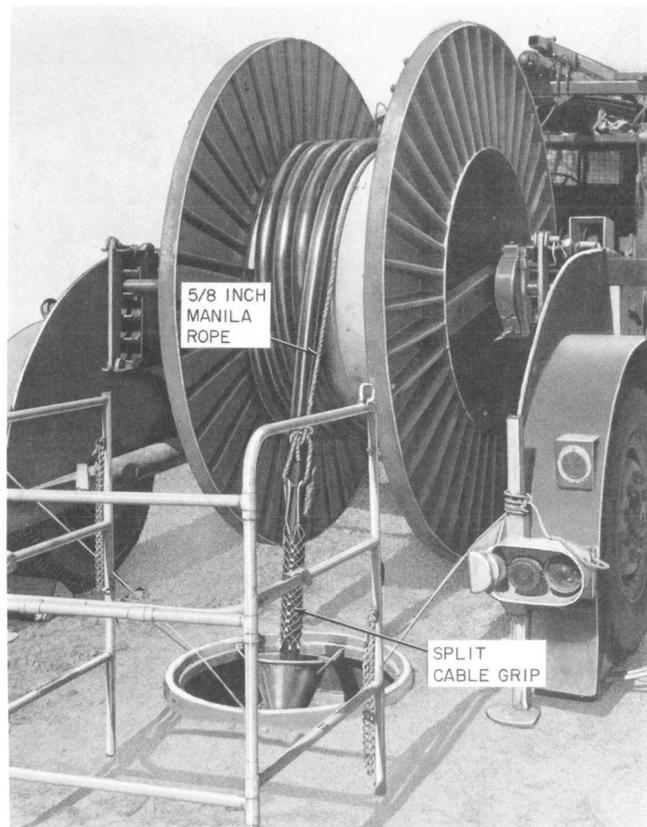

Fig. 23—Split Cable Grip in Place
- 12.05** Stop the reel when no less than four turns of cable remain on the reel and attach a split cable grip to the cable just above the cable lubricator (Fig. 23). Tie a 5/8-inch manila rope to the grip using a bowline knot and secure the other end of the rope to the cable reel trailer frame keeping the rope tight and parallel to the cable lead.